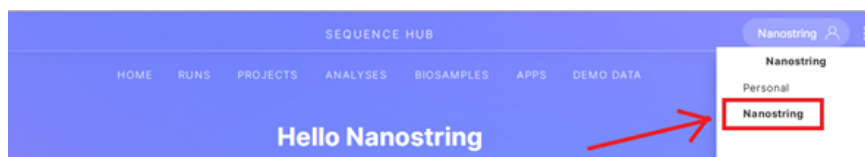

Figure 19: Select workgroup
2. Select your preferred workgroup (see Figure 19).